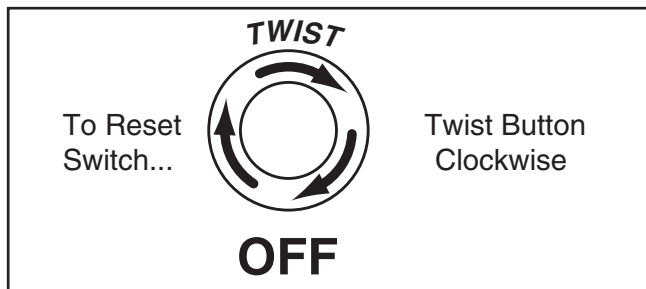

Figure 18. Resetting the E-STOP button.
6. Twist E-STOP button clockwise until it pops out—this resets it for operation (see **Figure 18**).